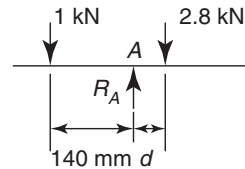

Figure 5.7
1. Determine distance d and the force acting at the support A for the force system shown in Figure 5.7, when the system is in equilibrium. [50 mm, 3.8 kN]
2. If the 1 kN force shown in Figure 5.7 is replaced by a force F at a distance of 250 mm to the left of R_A , find the value of F for the system to be in equilibrium. [560 N]